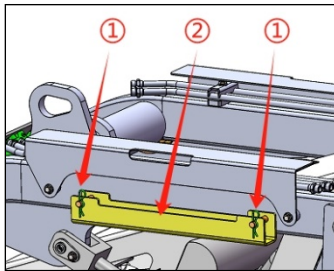

图 1
Step 1: Lower the lifting arm, remove the R-pin ①, take out the safety brace ② (as shown in Figure 1), and then insert the R-pin back into its original position.